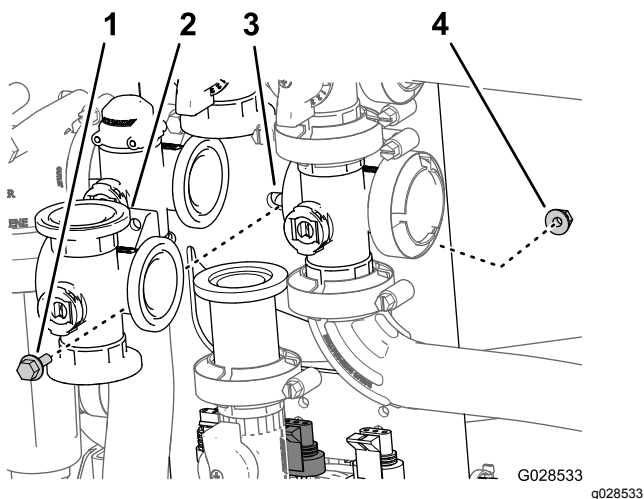

Figure 86
2. Remove the flanged-head bolt and flanged locknut that secures the agitation valve to the valve mount and remove the valve manifold from the machine (Figure 86).